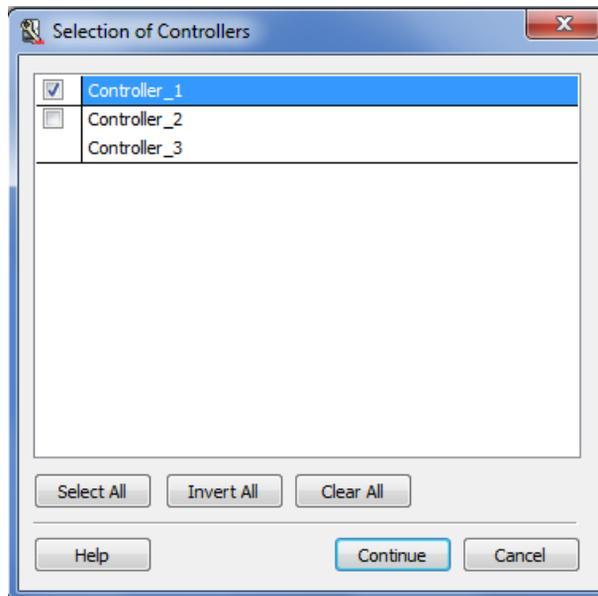

Figure 62. Selective of Controllers dialog
If you select **Tools > Download Project and Go Online** for a project with more than one controller, the Selection of Controllers dialog will be displayed. For example, in Figure 62, “Controller\_2” and “Controller\_3” cannot be separately selected or excluded since one application is connected to both these controllers.
1. Click **Continue**-button in Figure 62, an Online Analysis window will open.